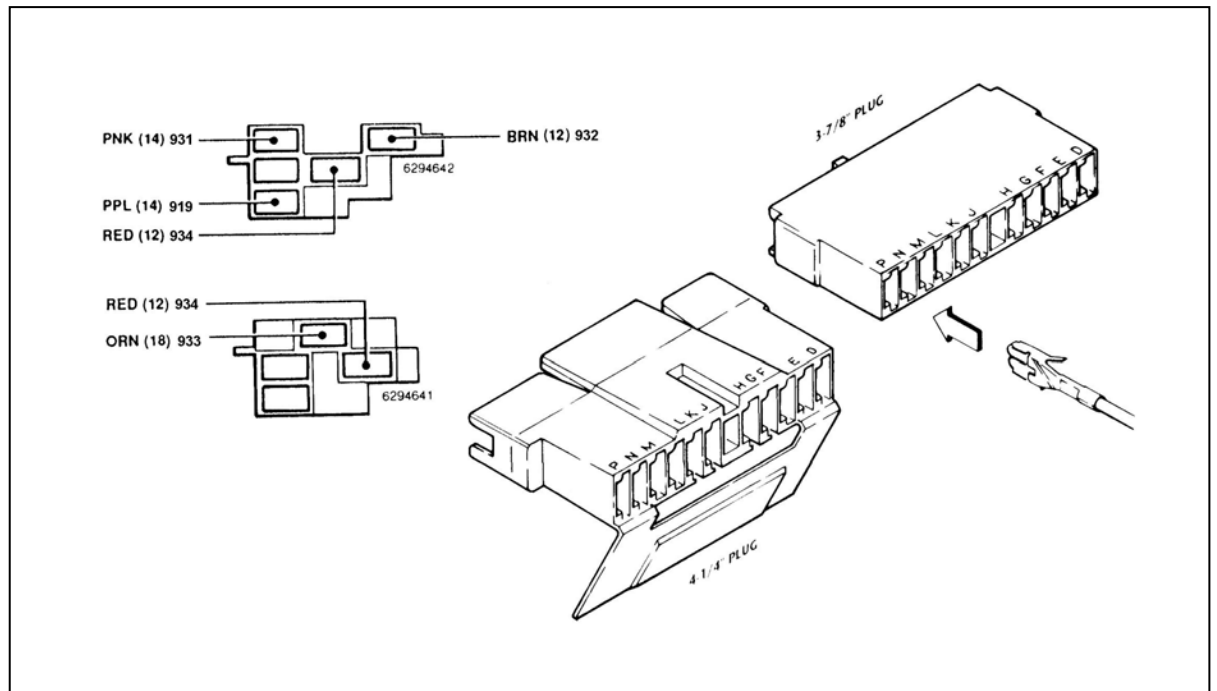

Figure 7-5 GM Turn Signal Connectors
- 7.5.1** There are two different plugs on most tilt columns. The difference is in the length of the male plug that is mounted ON THE COLUMN. One plug is 3-7/8" (3.875") long and the other is 4-1/4" (4.250"). This is only a difference of 3/8" (0.375"), so measure the plug carefully. The Wire Harness Kit has included two different female connectors to mate with the column-mounted plug. See **Figure 7-5** to determine which female connector is correct for your automobile.
Take the TURN SIGNAL SECTION wires, cut wires to length and install terminals provided. Choose the proper plug and install the terminals according to **Table 7-1**, as shown in **Figure 7-5**. The GM wire color codes have been included for reference.
*Note: The terminals will only insert into the connector ONE WAY, as shown in **Figure 7-5**. Make certain you are inserting the wire into the CORRECT LOCATION as the terminals are difficult if not impossible to remove once inserted.*
- 7.5.2** The Wire Harness Kit has included two connectors to mate with the GM column-mounted ignition switch. Take the ignition switch wires, cut to length and install terminals provided. See **Table 7-1** and **Figure 7-5** for color codes, wire numbers, and wire designations for the Ignition Switch Connectors.